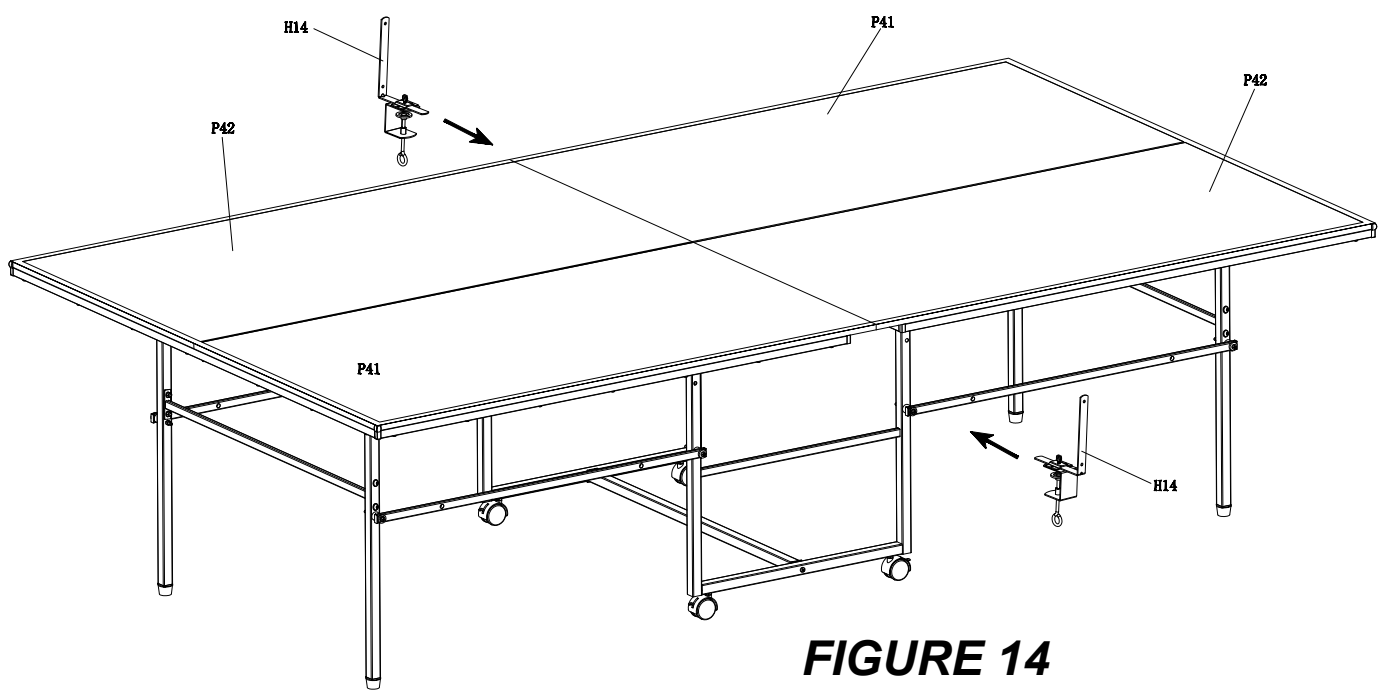

FIGURE 14
STEP 14 Assemble the net post H14 to the table top as below shown. See figure 14;